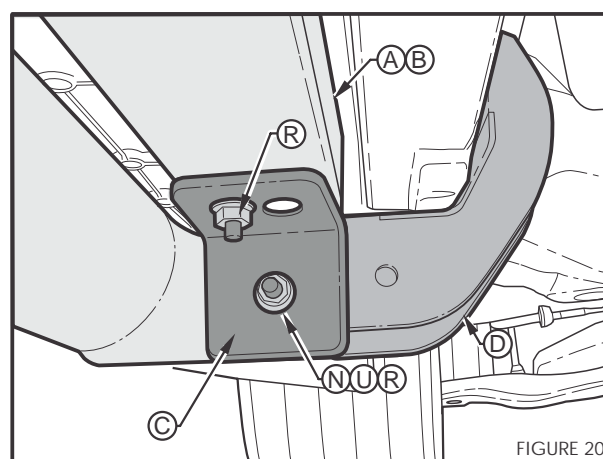

FIGURE 20
- Assemble the Front L-Bracket (Item C) to underside of the Side Step (Item A/B) with M8 Flange Nut (Item R) as shown in Figure 20.
- Assemble the Front L-Bracket (Item C) to the Front Mounting Bracket (Item D) with M8 Bolt (Item N), Washer (Item U) and Nut (Item R) as shown in Figure 20.